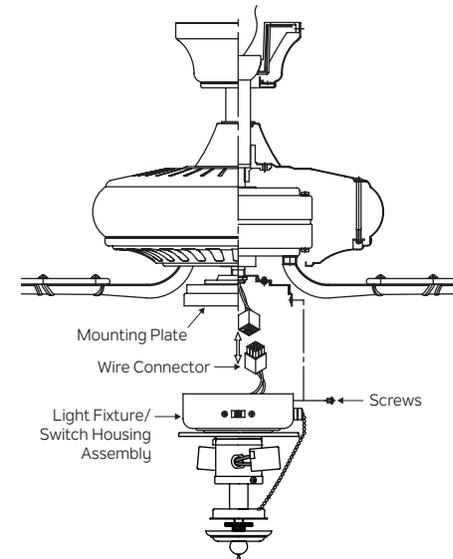

Fig. 18
3. While holding the light fixture/switch housing assembly under your ceiling fan, push the square wire connectors together. One from the fan and one from the switch housing. (Fig.18)
Attach the light fixture/switch housing assembly to the mounting plate with the screws provided. Make sure each screw is tight. (Fig. 18)